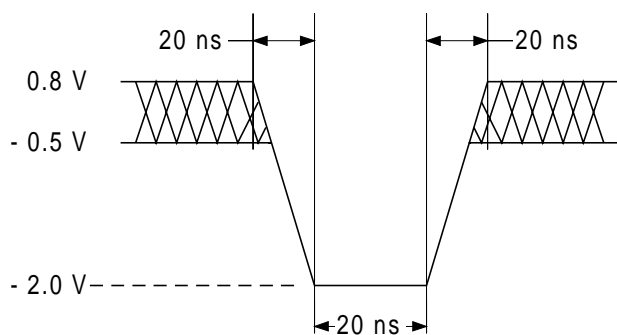
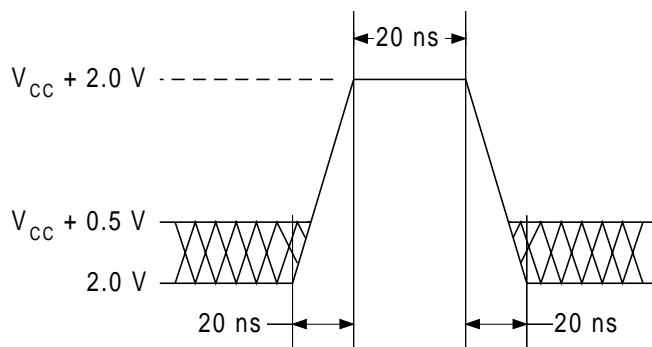

Figure 9. Maximum Undershoot Waveform
Figure 10. Maximum Overshoot Waveform
1. Minimum DC voltage on input or I/O pins is -0.5 V. During voltage transitions, input or I/O pins may undershoot  $V_{SS}$  to -2.0V for periods of up to 20 ns. See Figure 9. Maximum DC voltage on input or I/O pins is  $V_{CC} + 0.5$  V. During voltage transitions, input or I/O pins may overshoot to  $V_{CC} + 2.0$  V for periods up to 20 ns. See Figure 10.
2. Minimum DC input voltage on pins A[9], OE#, and RESET# is -0.5 V. During voltage transitions, A[9], OE#, and RESET# may undershoot  $V_{SS}$  to -2.0 V for periods of up to 20 ns. See Figure 9. Maximum DC input voltage on these pins is +12.5 V which may overshoot to 13.5 V for periods up to 20 ns.